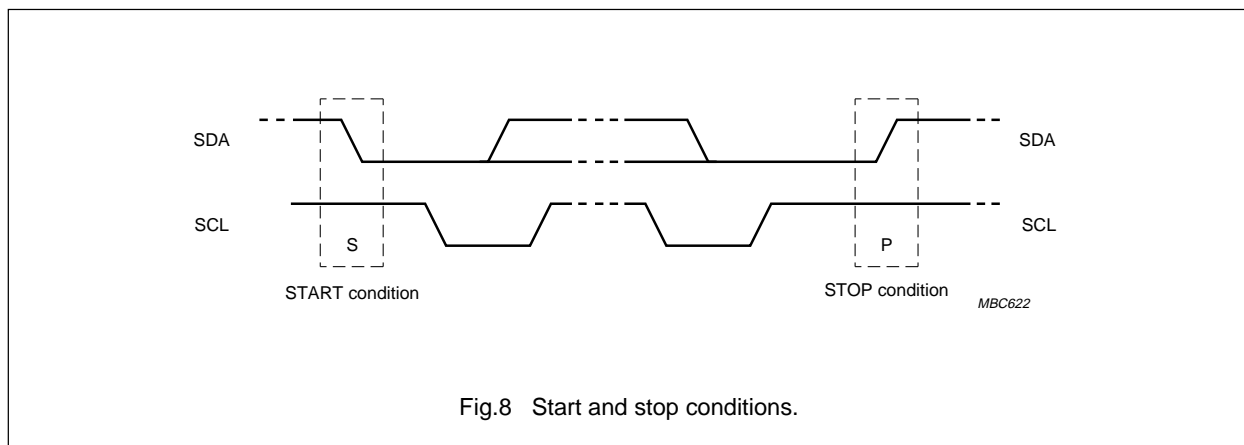

Fig.8 Start and stop conditions.
**8.2 Start and stop conditions** (see Fig.8)